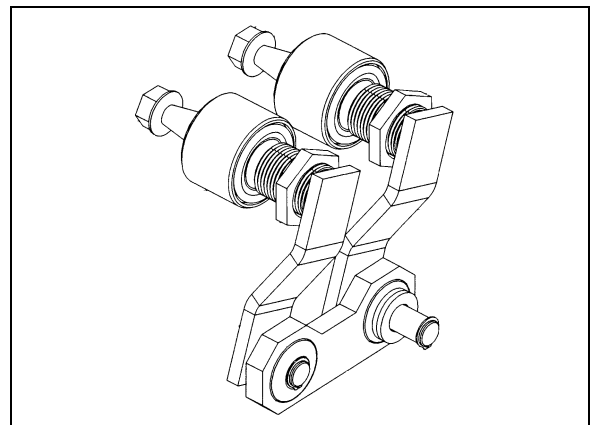

FIGURE 40: DRIVING MECHANISM (DRIVER SIDE) 23284
1. Reinstall the wiper arms and position as shown in figure 40. Before positioning the wipers at their final position, tighten the nuts at first.